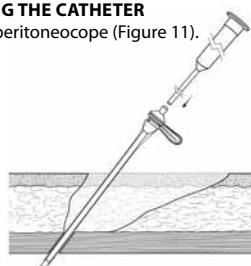

Figure 11
1. Re-insert peritoneoscope (Figure 11).